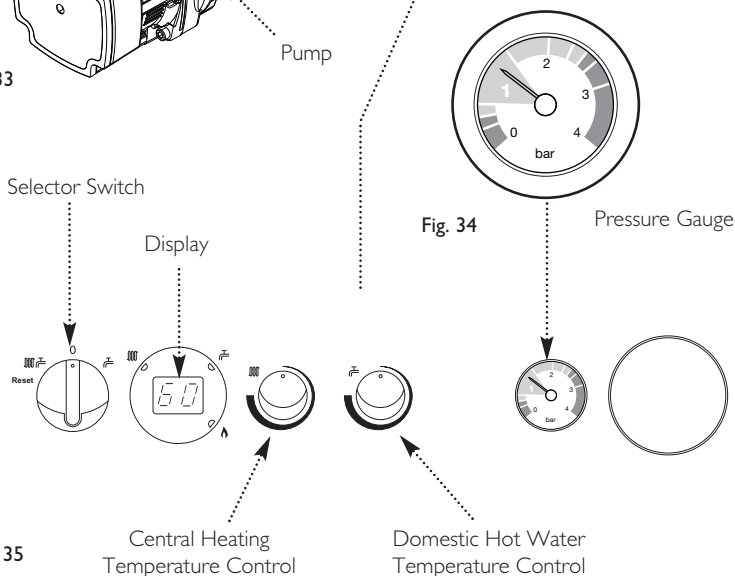

Fig. 35
15. Turn both control knobs fully anticlockwise (Fig. 35), then quickly turn the right hand knob 1/4 clockwise twice and back fully anticlockwise.